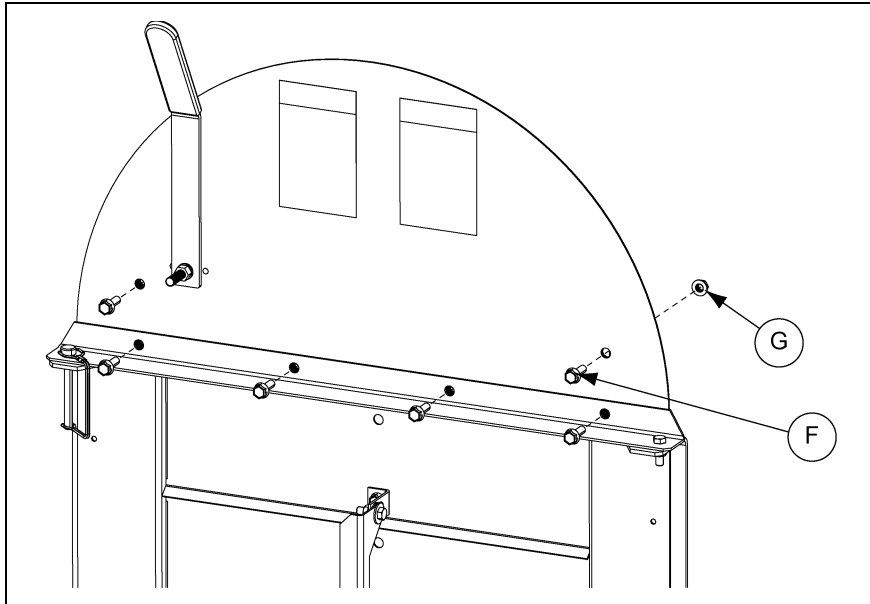

Figure 3
3. Install the top panel (D) with the latch handle using the same bolts (F) and nuts (G). *(See Figure 3.)*